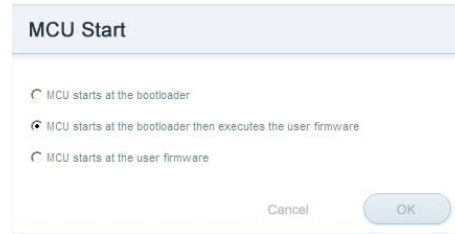

Figure 5 Set up MCU start mode
3. After programming to the IC successfully, click the <MCU Start> button in the right side of the I3000 interface, as Figure 5 shows and select the MCU start mode. Here the options are similar to the IDE3000 except for the first option, “MCU starts at the bootloader”. Then click the <OK> button.